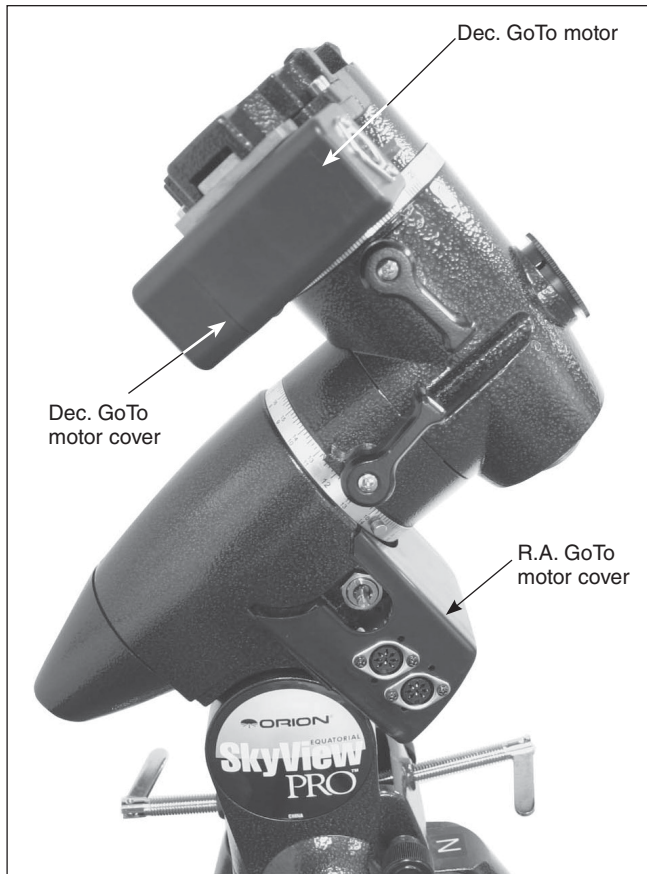

Figure 13. Installed GoTo motors
6. Once the Dec. GoTo motor and gear have been installed and the gears mesh appropriately, you can install and secure the Dec. GoTo motor cover with the two 8mm long Phillips screws. Once you have installed the Dec. GoTo motor and cover, your mount should resemble **Figure 13**.